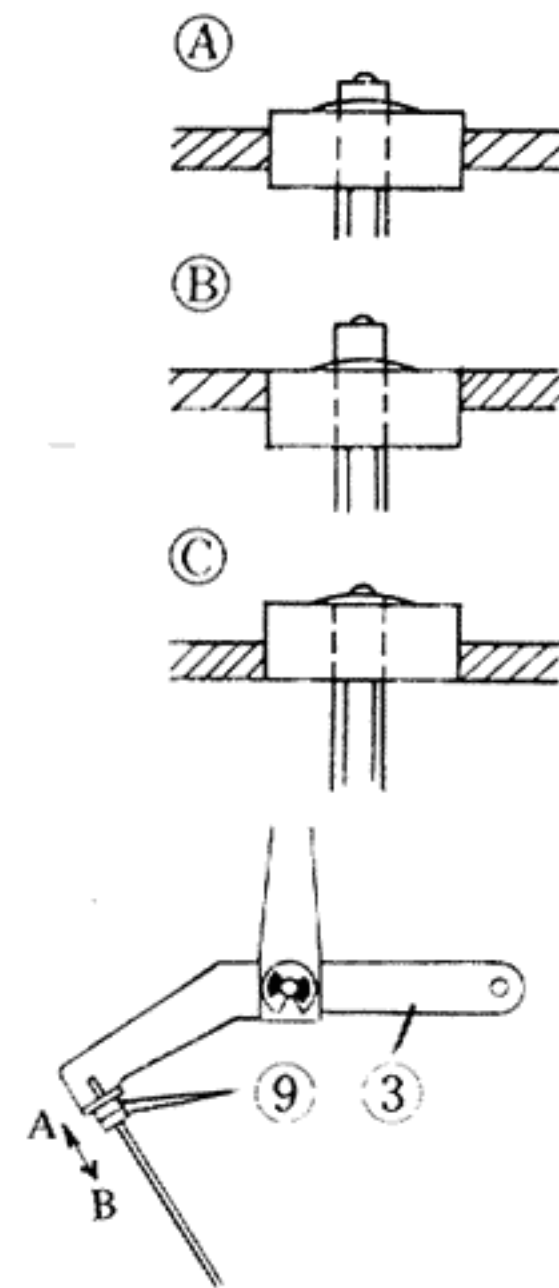

Fig. 26
Adjust so the tape runs along the center of the pinch roller, as shown in Fig. 26 (A). In the case shown in (B), adjust nut (9) should be moved in the direction of arrow (A). In the case shown in (C), move the adjust nut in the direction of arrow (B).